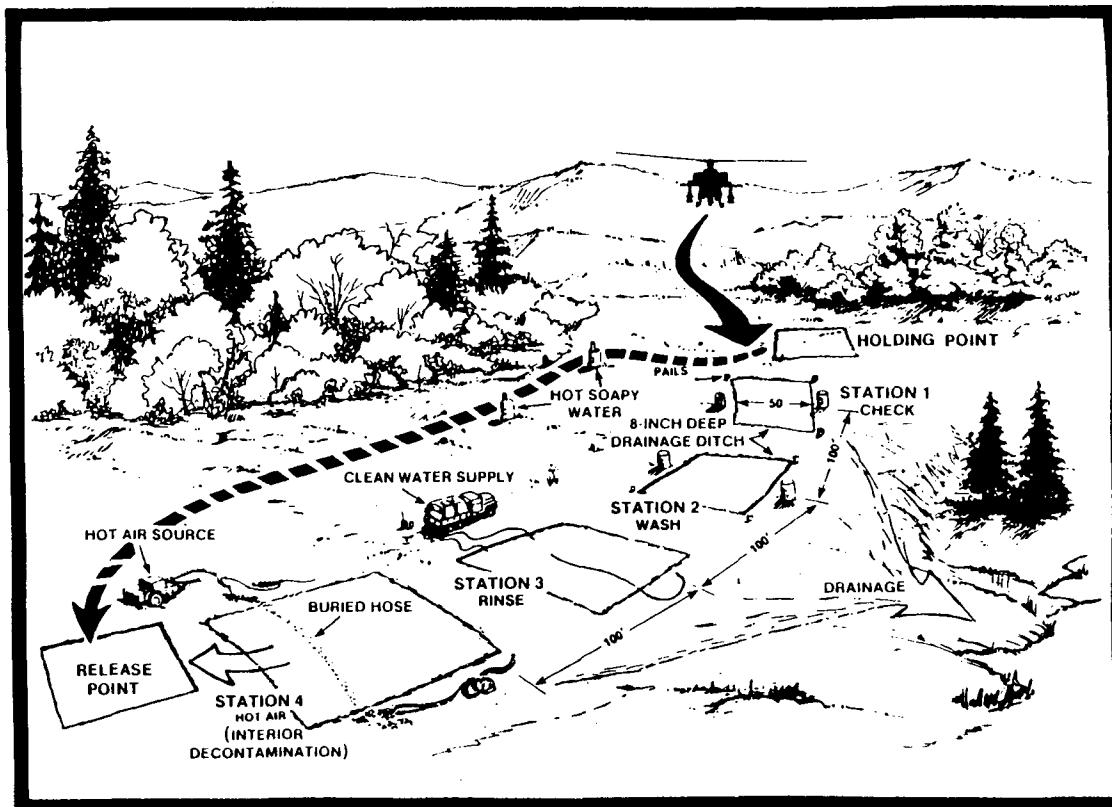

Figure 6-2. Four-Station Pull Decontamination Site.
**Four-Station Pull Method.** In this method, aircraft are hooked to towing equipment and pulled through a decontamination line. Towing equipment and vehicles will become contaminated and must be decontaminated afterwards. This method is costly in terms of time and resources, but it is the most thorough way to remove contaminants. Figure 6-2 shows a four-station pull decontamination site.